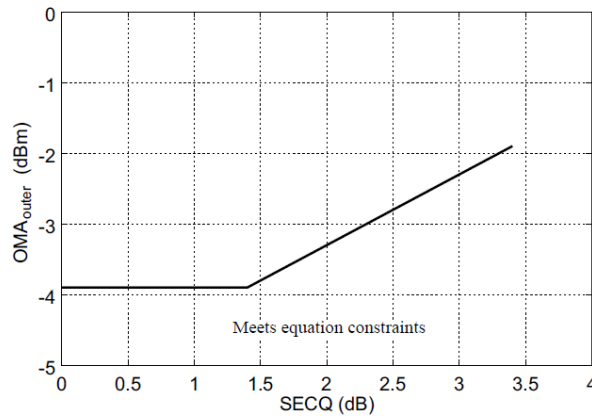

Figure 1. Illustration of Receiver Sensitivity Mask for 400G-DR4
6. Receiver sensitivity (OMA_{outer}), each lane (max) is informative and is defined for a transmitter with a value of SECQ up to 3.4 dB. It should meet Equation (1), which is illustrated in Figure 1.